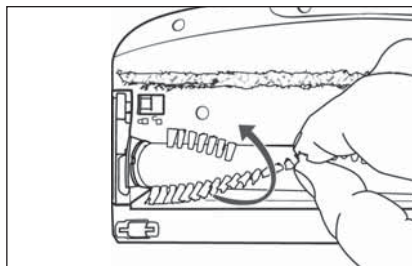

Fig. 30
- 3) Pull the rotary brush **21** out of the floor brush **22** by the bristles. Turn the rotary brush **21** slightly to make it easier to remove (see Fig. 30).